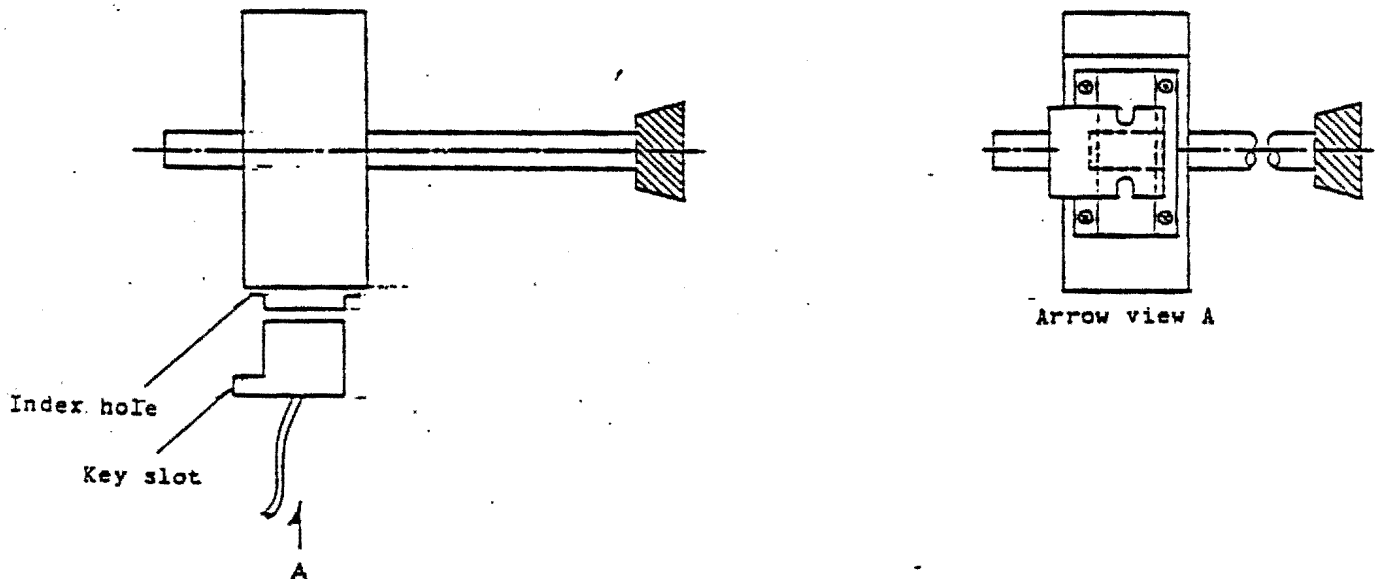
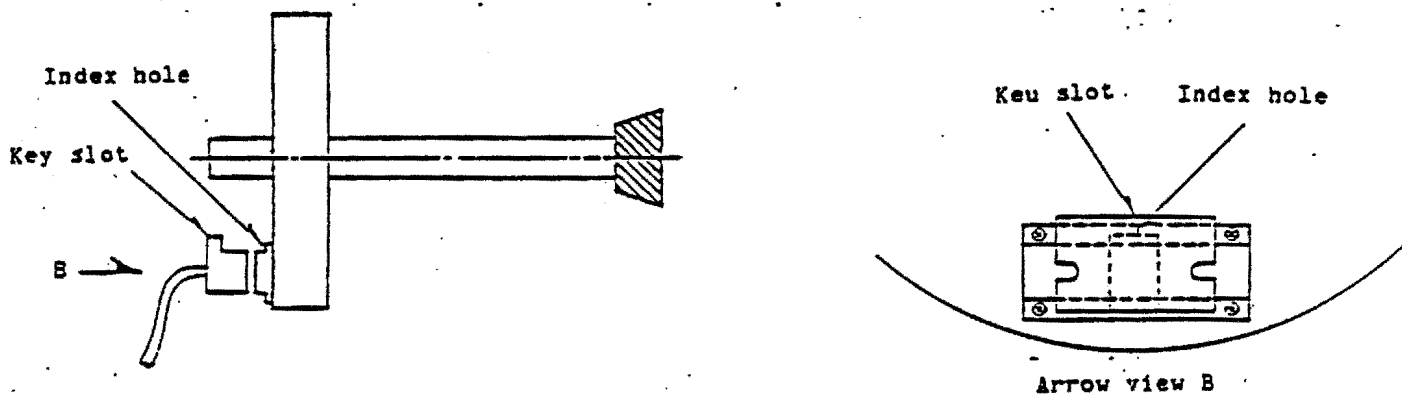
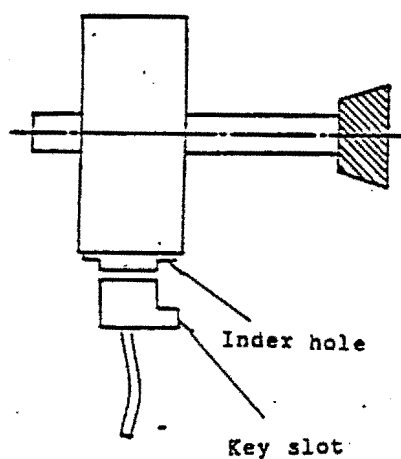

Fig. 6.3 Mounting onto the circumference of a rotating body
Fig. 6.4 Mounting onto a flat surface on the non-load side of the rotating body
Fig. 6.6
The mounting directions for the magnet and detection head are specified as shown in Figs. 6.3, 4 and 5.
As shown in Fig. 6.3, mount so that the key slot and index hole point to the non-load side of the spindle.
- (1) When the mounting surface is on the non-load side of the spindle, mount so that the index hole and key groove are pointing toward the center side, as shown in Fig. 6.4.
- (1) Orientation will remain normal even if the magnet and detector are mounted, as shown in Fig. 6.6, in the opposite way to that shown in Figs. 6.3, 4 and 5.
- (1) Do not bring strong magnetic objects near the magnet.
- (2) Take care not to subject the magnet to shocks.
- (3) Use M4 screws to secure the magnet rigidly to the spindle.
- (4) Provide the rotational balance of the whole spindle with the magnet mounted.
- (5) Bring the index hole in the center of the magnet to the center of the mounting disc and align its direction with that shown in Figs. 6.3, 4 and 5.
- (6) Make sure that the surroundings are clean so that metal chips and dust do not adhere to the magnet and thereby cause errors.
- (7) Paint over the mounting screws to lock them in position so as to avoid any looseness.
- (8) When the magnet is to be mounted onto a polished disc, the disc may have become magnetized. Steps should therefore be taken to demagnetize it.
- (9) The diameter of the disc onto which the magnet is mounted should be not less than 80 mm and not more than 120 mm. It may be larger if the spindle speed is low.
- (10) When the spindle onto which the magnet is mounted rotates at a speed higher than 6,000 rpm, the magnet must be replaced with a high-speed version (which can be used up to 10,000 rpm).
- (1) Ensure that the key slot on the detection head and the index hole in the magnet are pointing in the same direction.
- (2) Mount the sensor so that the center line on the end of the head and the center of the magnet are aligned (see Figs. 6-3, 4 and 5).
- (3) Refer to Table 1 for the size of the gap between the magnet and detector when the mounting method in Fig. 6.3 is adopted. Refer to Table 2 when the methods in Fig. 6.4 or 6.5 is employed.
- (4) Although the pre-amplifier connector is oil-proof, it should be mounted where the chances for oil to come into contact with it are minimal.
- (5) Lay the cable to the controller from the pre-amplifier at a distance from the power supply circuitry wires so that it is isolated from them.
- (6) First check the connector connections and ensure that the connectors have been inserted properly into the receptacles, and then tighten up their lock screws.